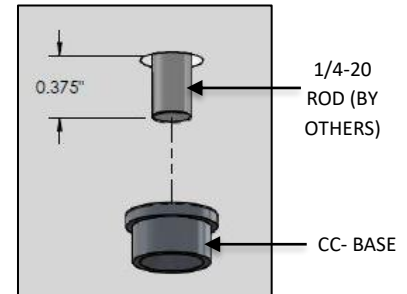

FIG. 18 – GRID CEILING
- Add a light thread locking compound to the 1/4-20 ROD (by others). Then thread CC-BASE to 1/4-20 ROD protruding through the ceiling material as shown in FIG. 18.